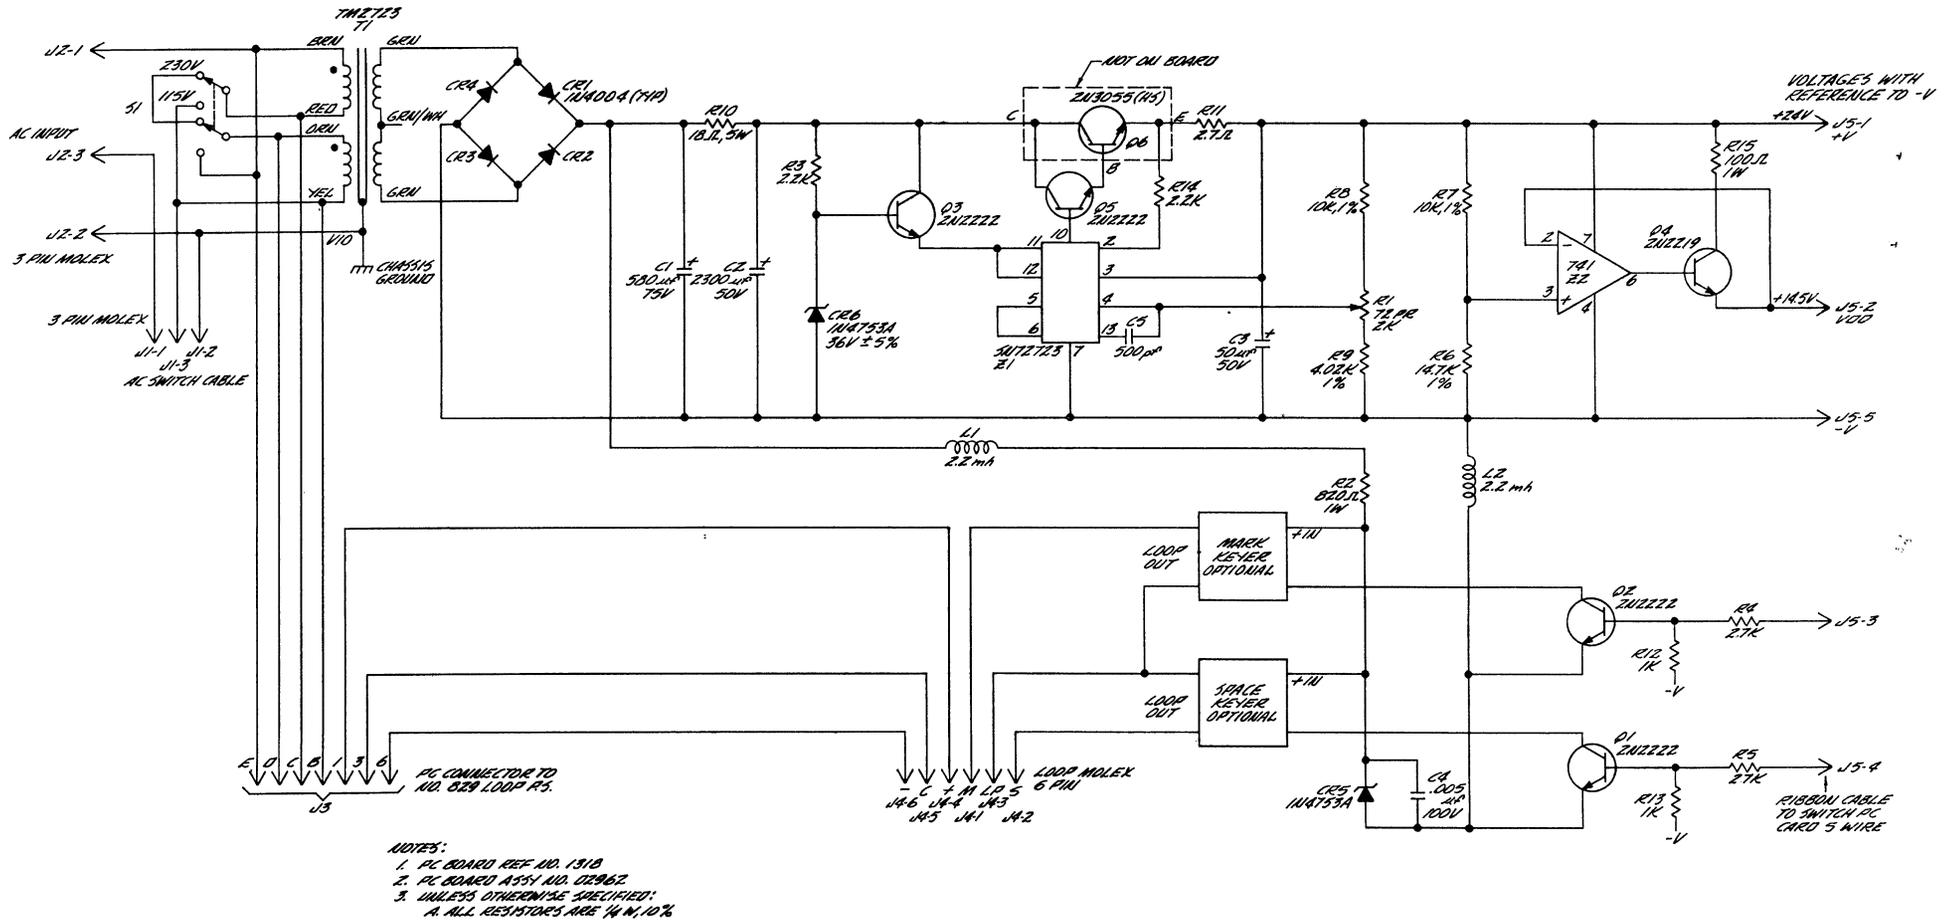

Figure 6-5. Power Supply Schematic Diagram D2961C
1. Refer to the schematic in Figure 6-5. Ensure that S1 is set properly to either 115 or 230V. The voltage across the two green leads from T1 should be 38 vac RMS. If not, check T1 for opens and replace if defective.